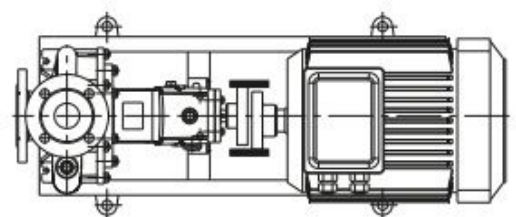

Figure 10c. Parallel sliding error in horizontal plane and adjustment.
- In order to control the parallelism mistake, a gauge with straight edge is pressed on a part of the coupling in parallel to the axis and the position of the gauge related to other part is observed. The gauge should contact with both two parts simultaneously and along its entire edge. This process should be performed at two opposite places on the horizontal and vertical plane (Figure 10c, 10d).